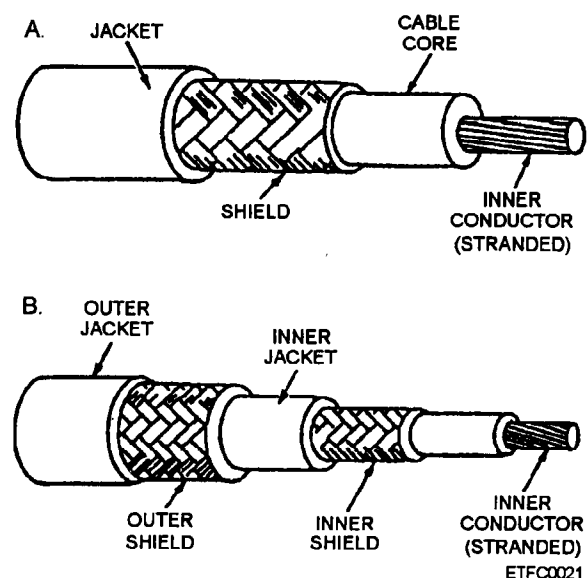

Figure 2-35.—Coaxial cable: A. Single; B. Triaxial.
**COAXIAL CABLES.**— Coaxial cables are designed to transmit signals efficiently between 1 kHz and 4000 MHz with minimum loss and little or no distortion. A coaxial cable is made of a central signal conductor covered with an insulating material (the dielectric core), which in turn, is covered by an outer tubular conductor (the return path). The cable is called coaxial because the conductors, usually two or three, are separated by the dielectric core. The inner core can be solid or stranded wire that is bare, tinned, or silver coated. Coaxial cables always have an outer shielding; refer to MIL-C-17 for specifications. Commonly used coaxial cables include RG-12A, RG-58, and RG-59 for coaxial and TRF-8 and TRF-58 for triaxial. Coaxial component cables are terminated with circular multipin connectors. Coaxial cables are used for serial transfer of data. Figure 2-35 shows examples of two types of coaxial cable: single and triaxial.